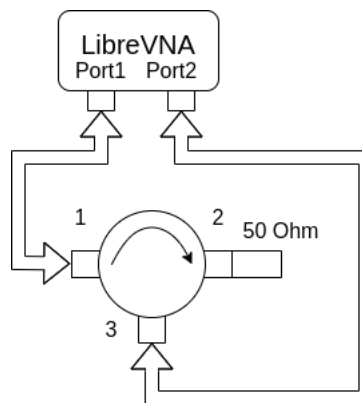

Figure 13: VNA connection with matched port 2.
- For this measurement, we connect VNA's Port1 SMA-cable to circulator's port 1, VNA's Port2 SMA-cable to circulator's port 3 and connect matched load to circulator's port 2. The set up would look like figure 13.